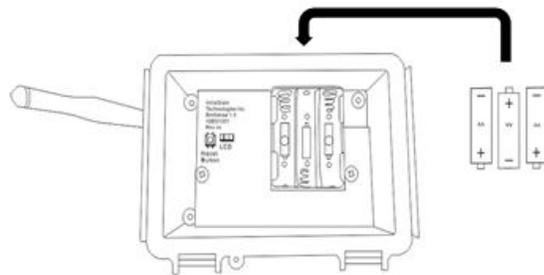

Figure 1
2. Open the lids on each Remote unit. Install the AA Lithium batteries (included) in the units, one by one, being cautious of polarity. Fasten the Velcro® battery strap over batteries after installing them (see *Figure 1*). You will see the LED flash in **RED** every second after the batteries are installed.